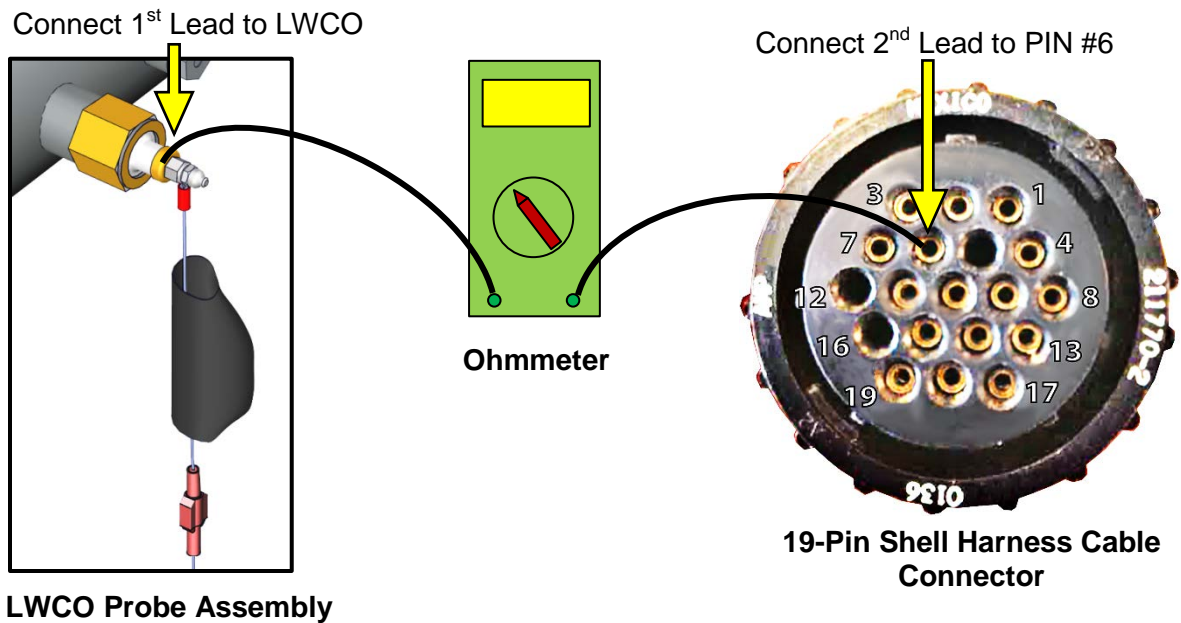

Figure 6-14: Connecting Ohmmeter between LWCO Probe & Shell Harness Cable
- Using an ohmmeter, connect one ohmmeter probe to the LWCO capacitor terminal on the unit shell as shown on left in Figure 6-14.
- Connect the second ohmmeter probe to Pin #6 of Shell Harness Connector (removed from the C-More controller) as shown on right in Figure 6-14.